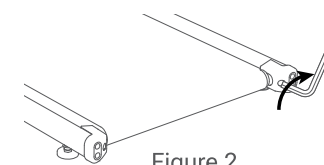

Figure 2
- If the walk belt has shifted to right, use the hex tool to turn the right idler roller screw clockwise **1/4** of turn(refer to figure 2).